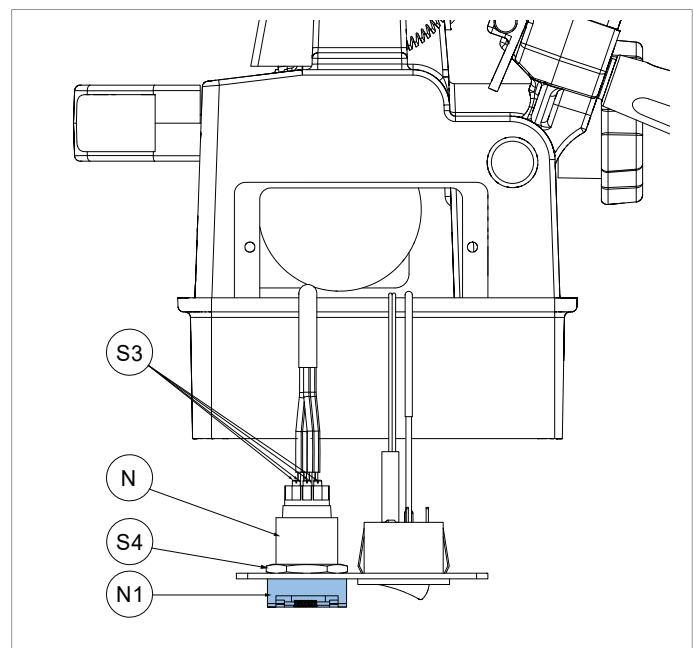

Fig. 43
- 3) To remove cable connections from the main switch (N), carefully open all the four screws (S3) as shown in Fig. 43.